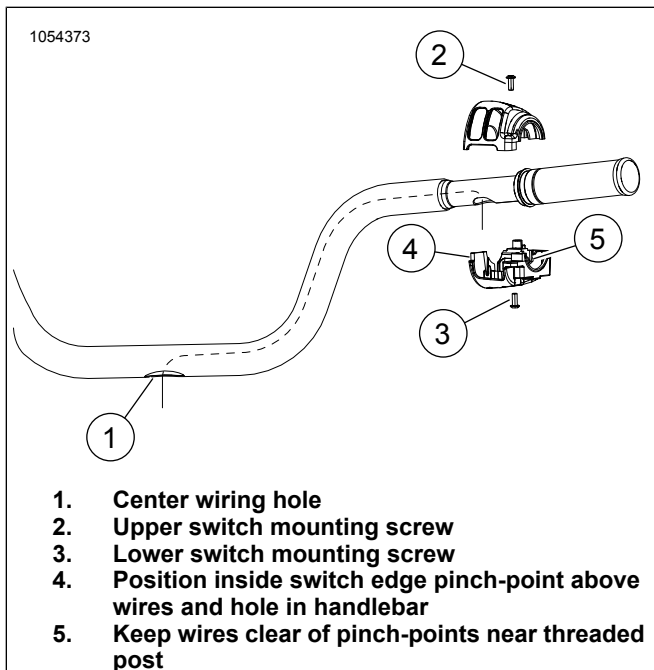

Figure 3. Switch Housing Wire Routing
2. See Figure 3. With the handlebar placed on a smooth, soft surface, grip ends upward, gently feed the right side switch wire bundle into the opening on the underside of the new handlebar and toward the large opening in the center of the bar.